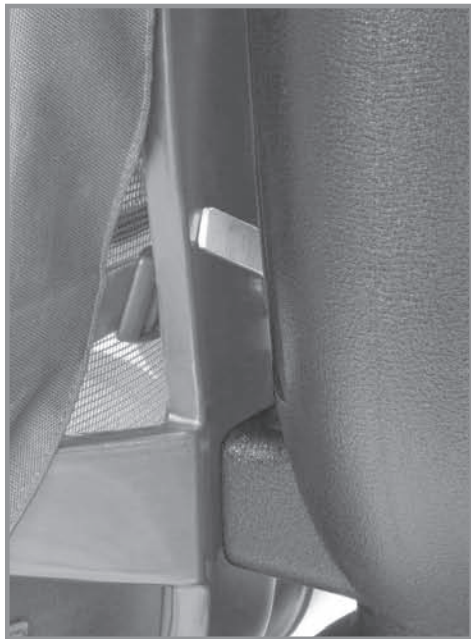

FIG. 5
5. Insert HEPA bag inside of micro cloth bag. (Fig.5)
To turn Active Cooling on, raise silver metal bar. (Fig. 5)